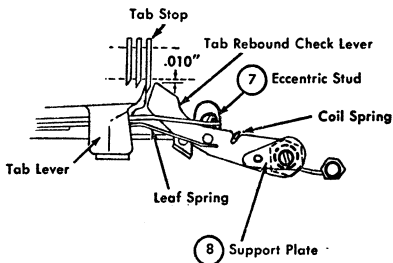

Figure 26. Rebound Check Eccentric Stud Adjustment
be adjusted so that, when the tab lever is latched out, the check lever will have a minimum clearance of .010" between the tip of the check lever and the tab rack (Figure 26).
8. SUPPORT PLATE. The rebound check lever must not rub the bottom of the tab lever, but must be high enough to catch securely on the tab stops. It must be flush with the bottom of the tab stops or preferably .010" above the bottom. Height of the rebound check lever is adjusted by forming the support plate up or down (Figure 26).